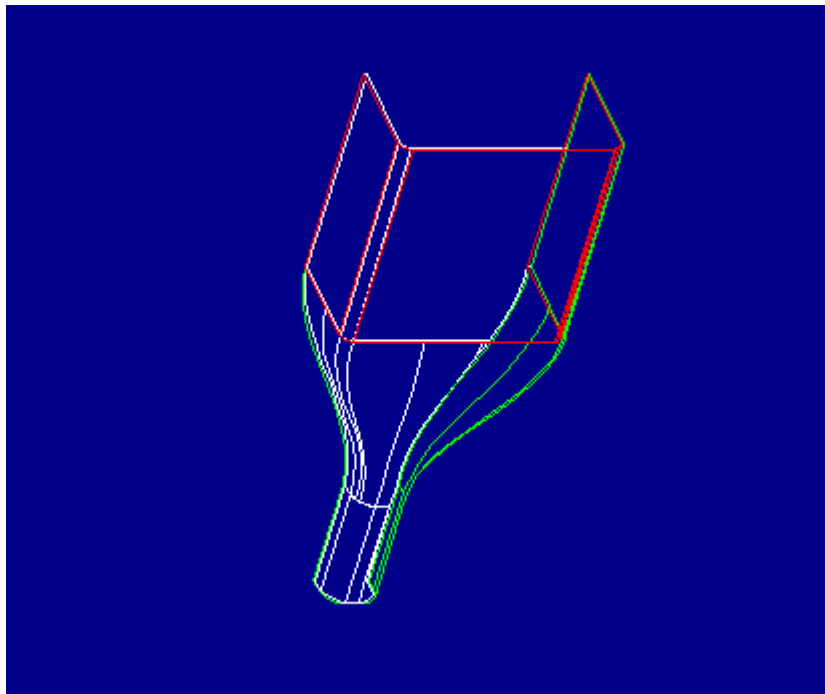

Figure 10
12. Merge the walls together by select **Feature, Create, Sheetmetal, Merge, and Done**. The first set of surfaces belongs to the base wall. The unattached walls will be merged to the base wall. Select the surfaces shown in Figure 10, select **Done Sel**, and **Done Refs**.